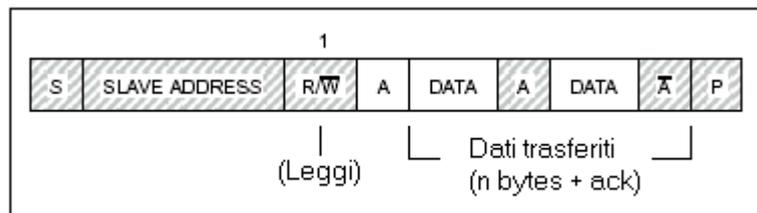

Fig. 6
- Fig. 6 : Master-receiver Slave-transmitter